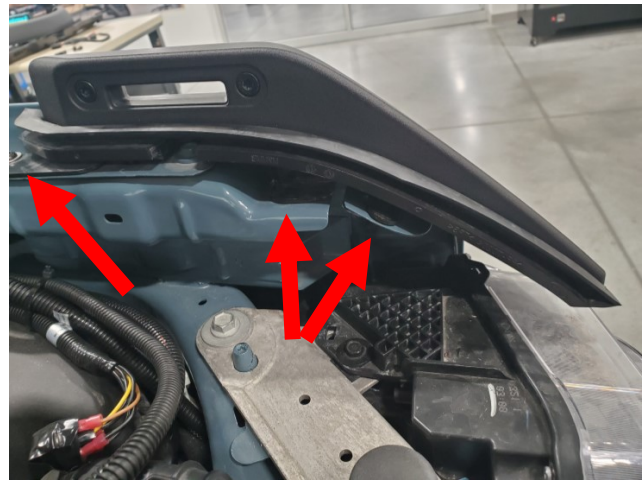

Figure 11.
**11.** Remove the OEM limb risers using a T25 driver to remove the T25 bolt to the rear. Use a 10mm socket to remove two nuts holding the front of the limb riser to the sheet metal. See figure 11 for more detail. Repeat on the right